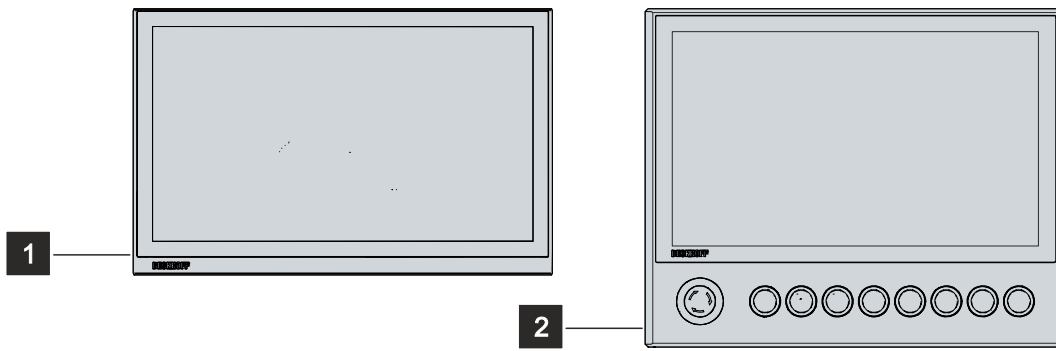

Fig. 1: Without and with push button extension
For explanations of the push button extension and the functions, refer to the C9900-G00x-G02x manual. Figure 1 shows an example of a panel PC without (1) and with (2) push button extension.